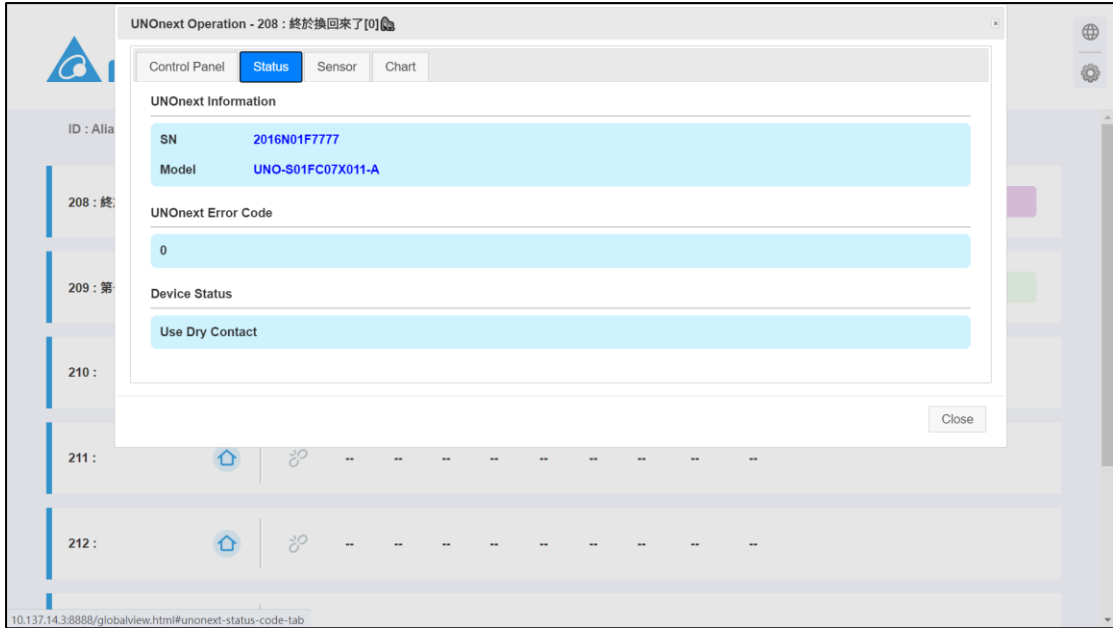

Figure 27 Use dry contact connection status tab
- UNOSensor Information: Includes non-modifiable static information, such as UNOSensor serial numbers (SN) and UNOSensor model.
- Device Status: If UNOSensor is connected to the ventilation device via RS485, the connection status of up to 4 ventilation devices will be displayed here: In **ONLINE** and **OFFLINE**, if the connected device is abnormal, the **error code** will be displayed directly behind. **See the ventilation equipment manuals and documentation for details.** If UNOSensor is connected to the device with dry contact, it will directly display **Use Dry Contact** here, as shown in Figure 27.